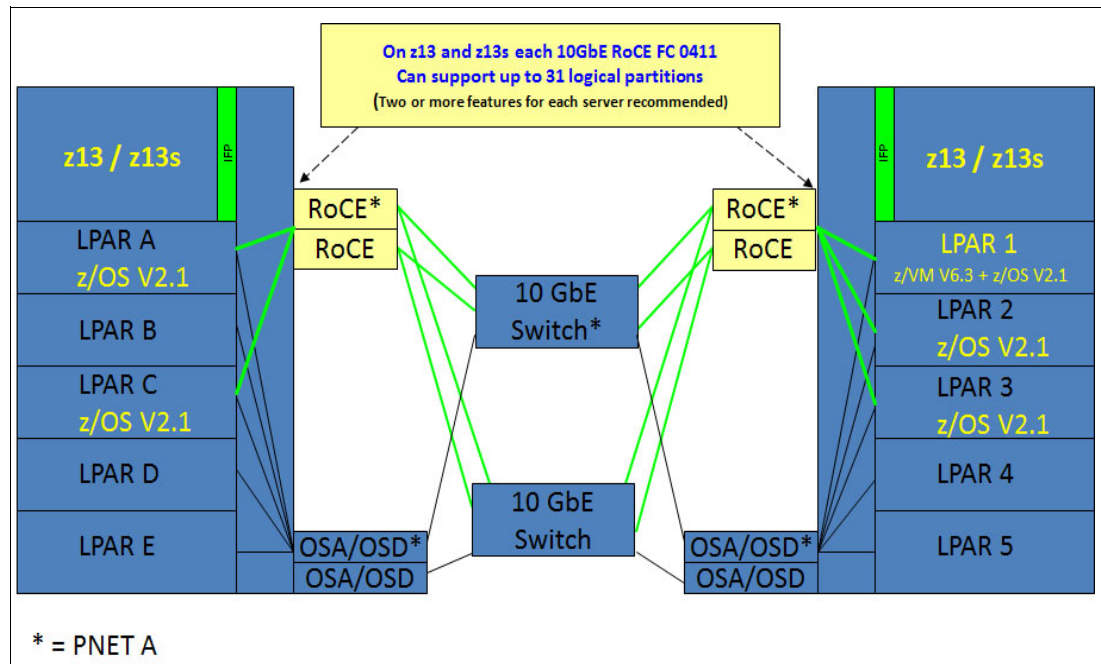
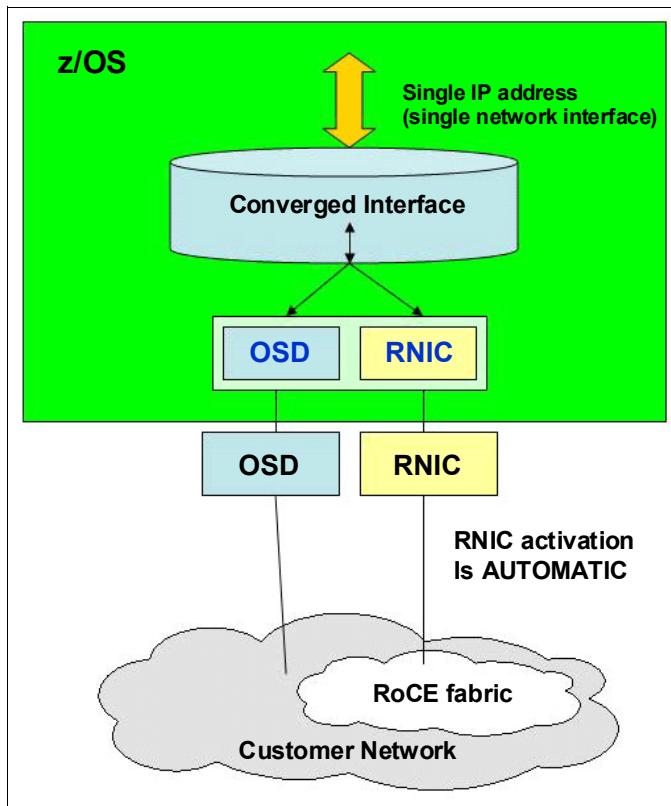

Figure D-5 10GbE RoCE Express sample configuration
Figure D-6 RNIC and OSD interaction
Figure D-5 illustrates a sample configuration that allows redundant SMC-R connectivity among LPAR A and C, and LPAR 1, 2 and 3. Each feature can be shared or dedicated to an LPAR. Like the sample configuration, two features per LPAR are advised for redundancy.
The configuration that is shown in Figure D-5 allows redundant SMC-R connectivity among LPAR A, LPAR C, LPAR 1, LPAR 2, and LPAR 3. LPAR to LPAR OSD connections are required to establish the SMC-R communications. 1 GbE OSD connections can be used instead of 10 GbE. OSD connections can flow through the same 10 GbE switches or different switches.
An OSA-Express feature, defined as channel-path identifier (CHPID) type OSD, is required to establish SMC-R. Figure D-6 shows the interaction of OSD and the RNIC. The OSA feature might be a single or pair of 10 GbE, 1 GbE, or 1000Base-T OSAs. The OSA needs to be connected to another OSA on the system with which the RoCE feature is communicating. In Figure D-5, 1 GbE OSD connections can still be used instead of 10 GbE and OSD connections can flow through the same 10 GbE switches.
The following notes refer to Figure D-6:
- ▶ Required queued direct input/output (QDIO) Mode OSA connectivity between z/OS LPARs as shown in Figure D-5 on page 507.